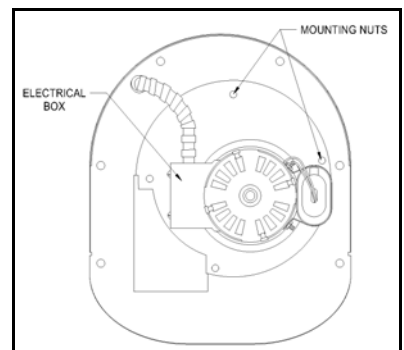

Figure 15
2. Disconnect the conduit connector from the motor conduit box by loosening the screw on the side of the connector. Pull the wires and wire nuts out of conduit box hole and remove the wire nuts. **NOTE:** *Wiring disconnection may not be necessary for inspection and/or cleaning only.* (See Figure 15)